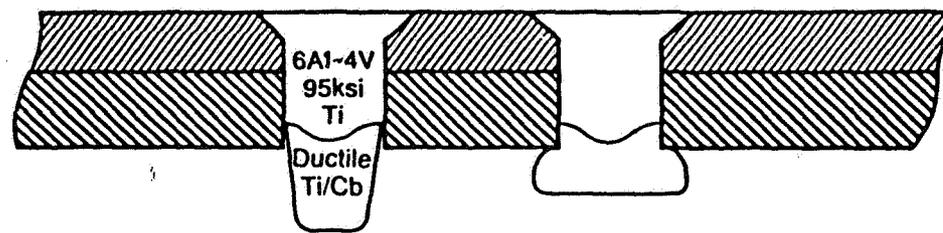

Figure 56 - Cherry Buck Rivet
- This rivet is a hybrid, consisting of a factory head and shank of titanium ($F_{su} = 95\text{ksi}$). A shop shank end of ductile titanium/columbium is inertia welded to the pure titanium shank (see Figure 56).